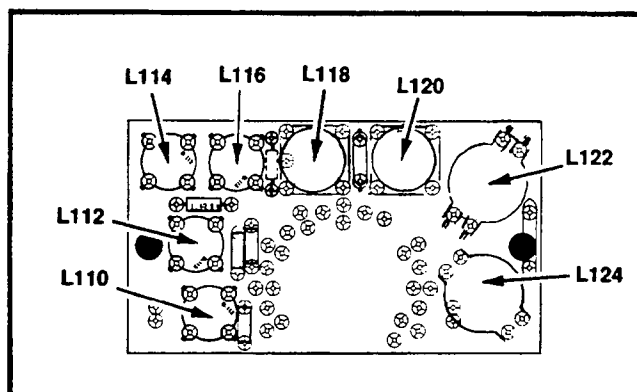

Fig. 3-6. Location of oscillator coils.
g. Repeat part d of this step for the remaining frequency ranges, using Table 3-3 as reference. (Suppression limit of 35 decibel down corresponds to 3.5 divisions on the display.) See Fig. 3-6 for adjustment location of coils.